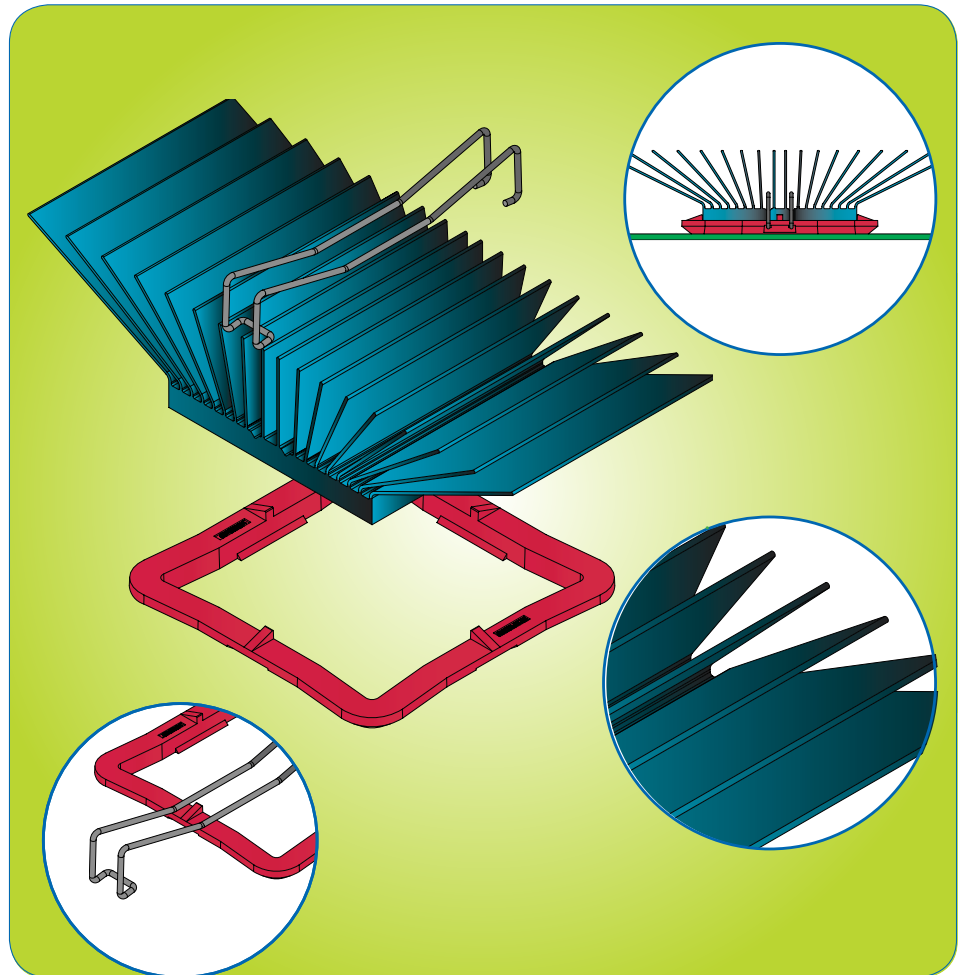

Figure 1. The maxiGRIP Heat Sink Assembly.
To overcome these issues, ATS developed the maxiGRIP™ heat sink attachment solution. The maxiGRIP™ system features a frame clip (FC) and spring clip (SC), as shown in Figure 1.